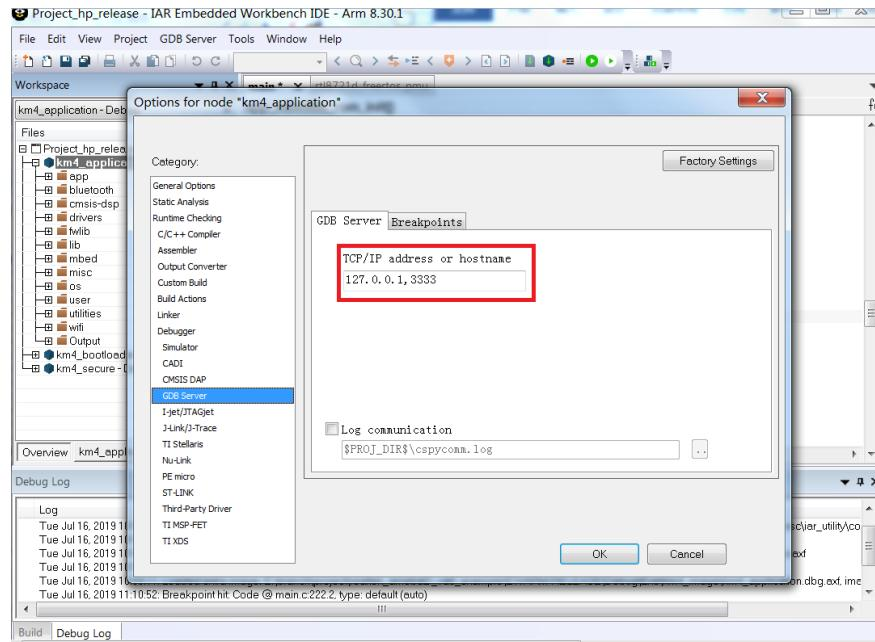

Fig 6-16 RLX Probe interface setup
- Click GDB Server > GDB Server, and put correct value in "TCP/IP address or hostname", as Fig 6-16 shows. The value should be: *localhost, port number*.